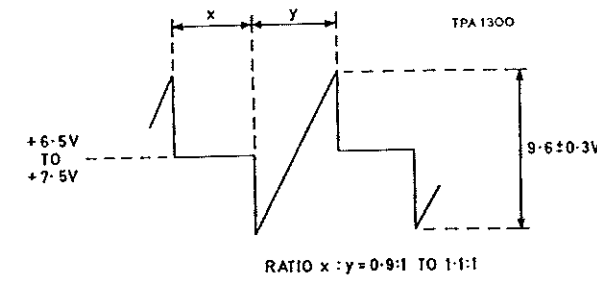

Fig. 5.15 Control oscillator waveform, 1:1 ratio
(8) Connect the oscilloscope to pin 21 on board 10 and check that the level and ratio of the waveform is as shown in Fig. 5.15.